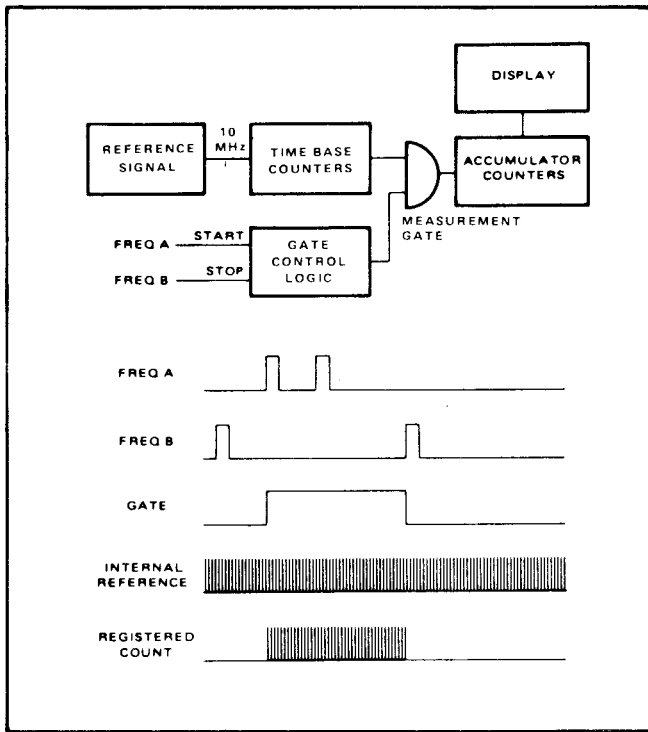

Figure 1.8 - Time Interval
1.3.8.1 The Time Interval mode of operation allows measurement of the time between two electrical events to a maximum resolution of 100 nanoseconds (figure 1.8). The first event (start) is connected to channel A and opens the gate. The second event (stop) is connected to channel B and closes the gate. These signals control the main gate through the control logic. Slope and trigger level programming allow variable trigger levels on the + or - slope of the input waveforms. Pulses from the 10 MHz reference circuit are routed to the time base and to the measurement gate. The pulses occurring during the gate are counted and displayed.